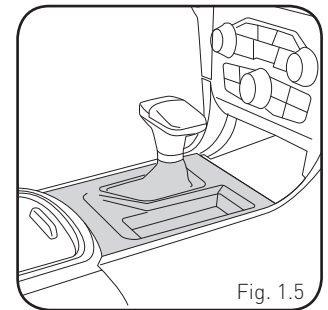

Fig. 1.5
6. Using a panel tool, pry upward on the shifter trim to release the clips securing it. Disconnect the shifter wiring harness. (Fig. 1.5)